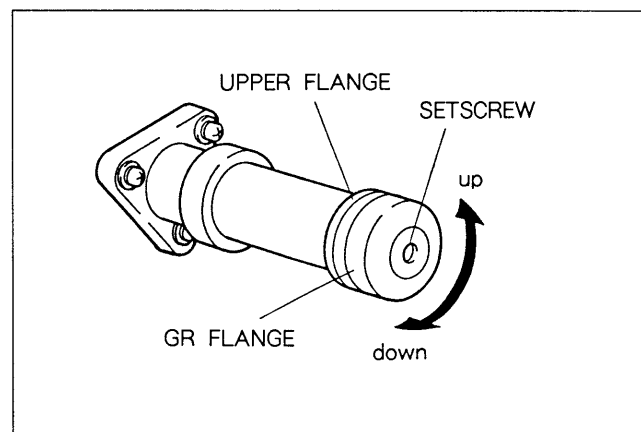

Fig. 9-3-6. S Guide Roller Height Adjustment
3. **S Guide Roller Height Adjustment (See Fig. 9-3-6.)**